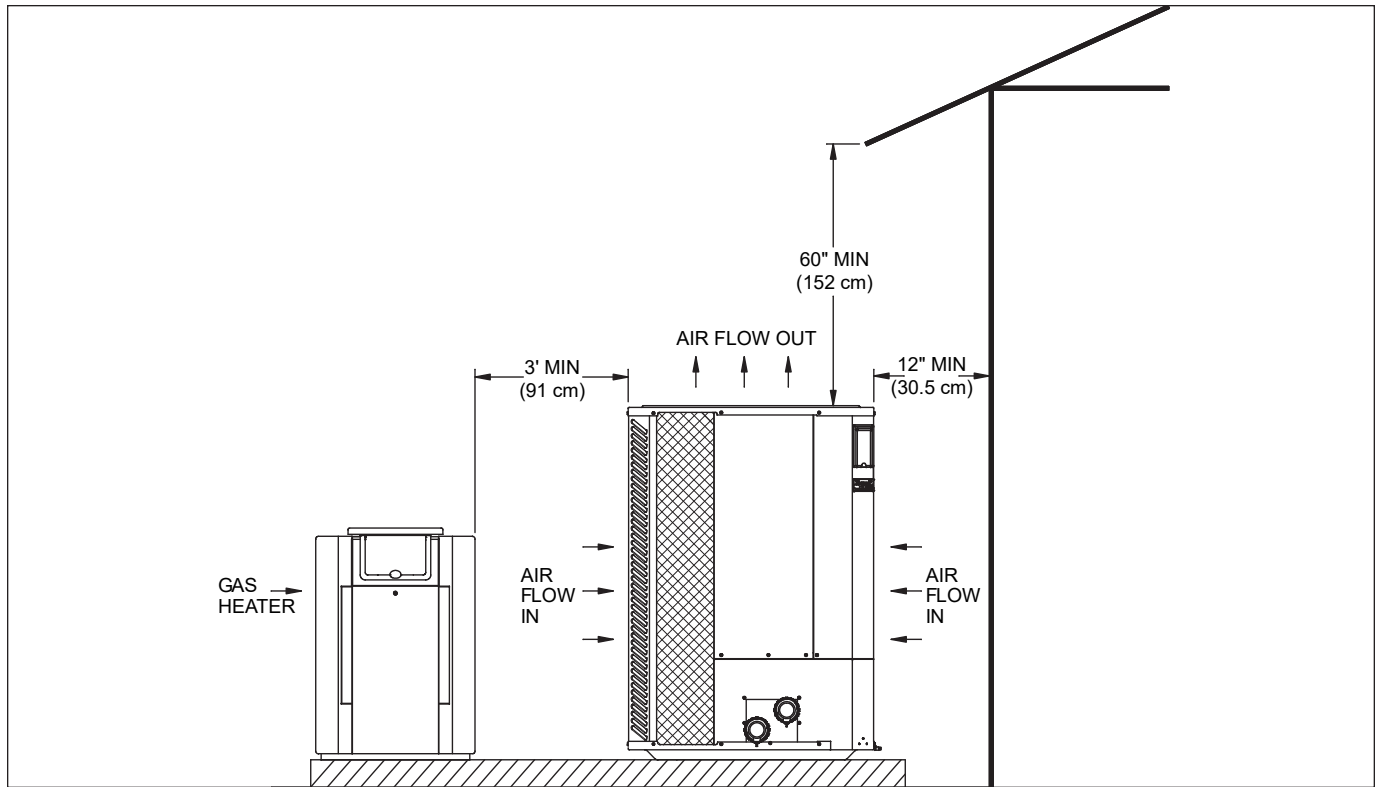

Figure 1. Installation Clearances
- This unit features an 'up-flow' discharge for quiet operation. Air is pulled up through the evaporator coil and discharged through the top grill. Allow at least 5 ft (1.5 m) clearance above the unit for unrestricted air discharge. **DO NOT** install the unit under a porch or deck. Refer to **Figure 1**.